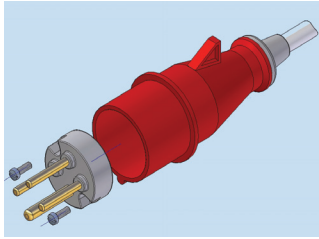

Fig. 7 Mains plug
- 12) Undo the screws shown in **Fig. 7** on page 33.
- 15) Close the plug using the screws as shown in **Fig. 7** on page 33.